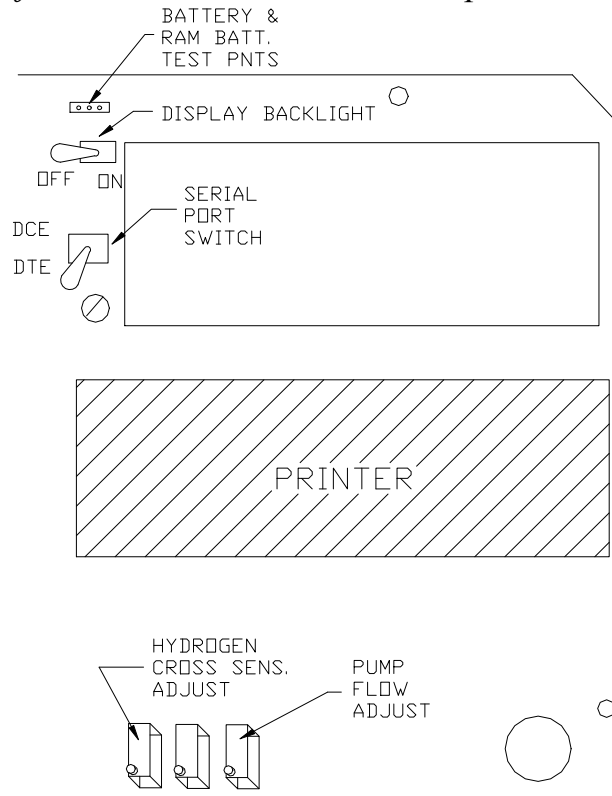

FIGURE 9
- iii. The pump flow adjusting potentiometer is the third one on the left. See fig. 9.
- a. **THE "SAMPLE" PUMP.** This pump consists essentially of two separate pumps driven by one high quality DC motor. Both pump sections are mounted on one assembly. One pump is used to draw the gas sample into the instrument and the other pump is used to supply an equal amount of air to the combustibles sensor. The nominal flow rate for either section is set at 550 cc/min. By a potentiometer located on the PC board. See figure 9.
- ii. **CARBON MONOXIDE SENSOR. (SEM™ TYPE SENSOR).** This is a proprietary sealed electrochemical cell incorporating a disposable long life inboard filter and multiple capillary design. It consists of four platinum electrodes in an electrolyte. Carbon monoxide gas diffuses through a tiny capillary located on the face of the Precision Control Module(PCM), which includes also the interference rejection filter media. It reacts with oxygen present inside the cell to form carbon dioxide. The reaction produces an electric current proportional to the concentration of the gas. Sensor life is estimated at 2 years. A calibration adjustment removes all cross sensitivity to hydrogen gas. See figure 9. This calibration is normally carried out at the factory.